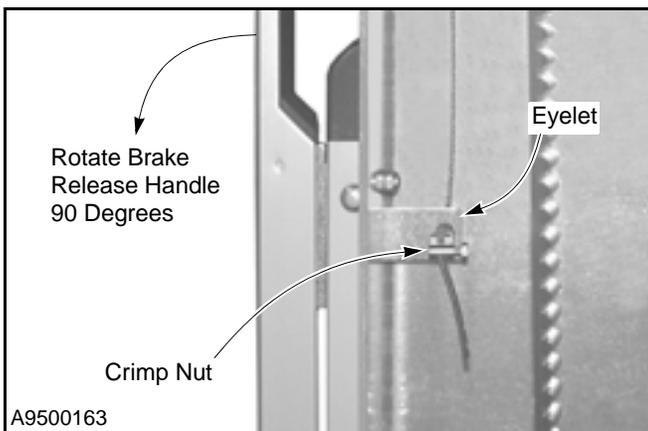

Figure 52
- With the brake release handle fully extended or at 90 degrees, feed the cable through the eyelet in the bottom of the handle. Slide a crimp nut over the end of the cable with the nut tight against eyelet. Then tighten down the set screw — with the majority of slack removed from the cable. (See Figure 52.)